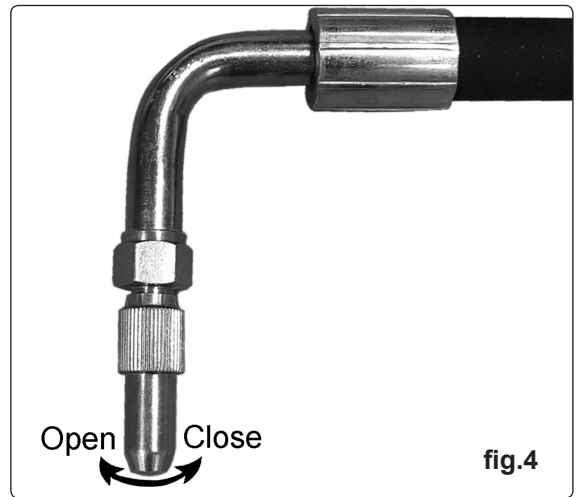

fig.4
- 4.4.2 With the nozzle pointing into the receiving container, open the nozzle valve as shown in fig.4.